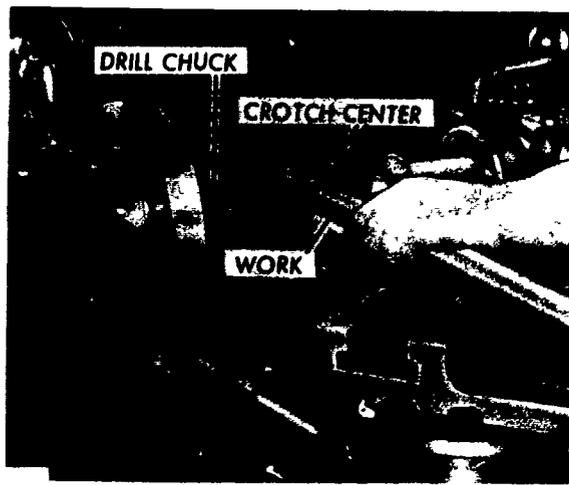

Figure 57. Supporting work with a crotch center.
d. *Crotch centers* have a 90° groove machined in their face. They are used to support round stock when holes are drilled 90° to the axis of the stock, as shown in figure 57.